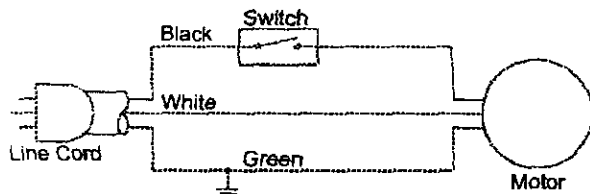

Figure 16 - Wiring Diagram
- This tool is equipped with an approved 3-conductor cord rated at 150V and a 3-prong grounding type plug (Figure 16) for your protection against shock hazards.
The sanding centers are assembled with motor and wiring installed as an integral part of the tool. The electrical wiring schematic is shown in Figure 16.
Motor and wires are installed as shown in wiring diagram (See Figure 16). Motor is assembled with approved, 3-conductor cord to be used at 120 volts.